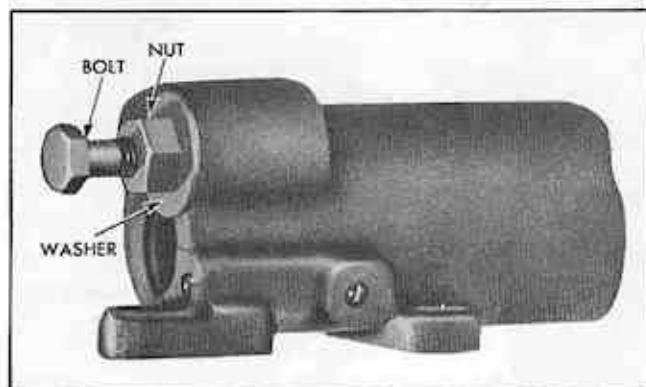

Fig. 44 Removing Connectors
2. Remove connectors by using bolt threaded into tapped holes with washer and nut as an extractor and discard (Fig. 44).